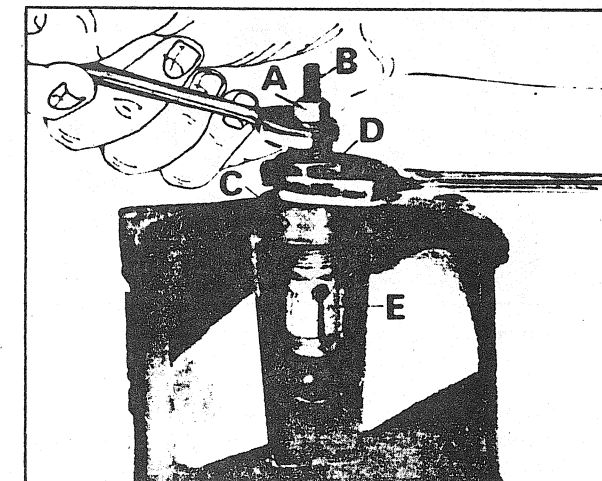

FIGURE 12
**CAUTION:** Do not over tighten the small nut (A) as it could damage the bowl hub.
- Hold the ring (C) on the bowl then tighten the nut (D) until the glacier bowl becomes free (fig. 12).